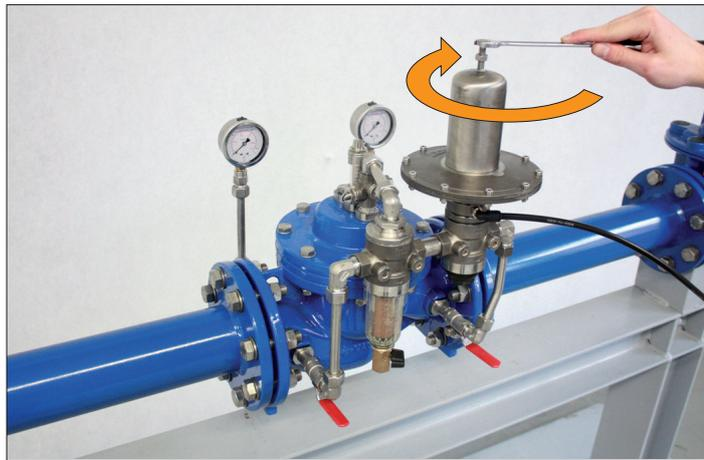

Figure 37: Adjusting the desired tank level
- Now the desired filling or tank level can be adjusted. To do so, turn the adjustment screw of the pilot valve clockwise until the required filling level is reached (see Figure 37).